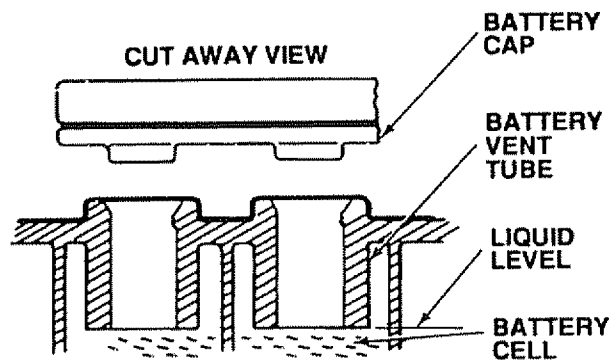

FIGURE 14
- a. Battery acid solution level in each battery cell should be even with bottoms of vent tubes in cells (Fig. 14). Add **ONLY** distilled or iron free water if necessary. NOTE: DO NOT OVERFILL.